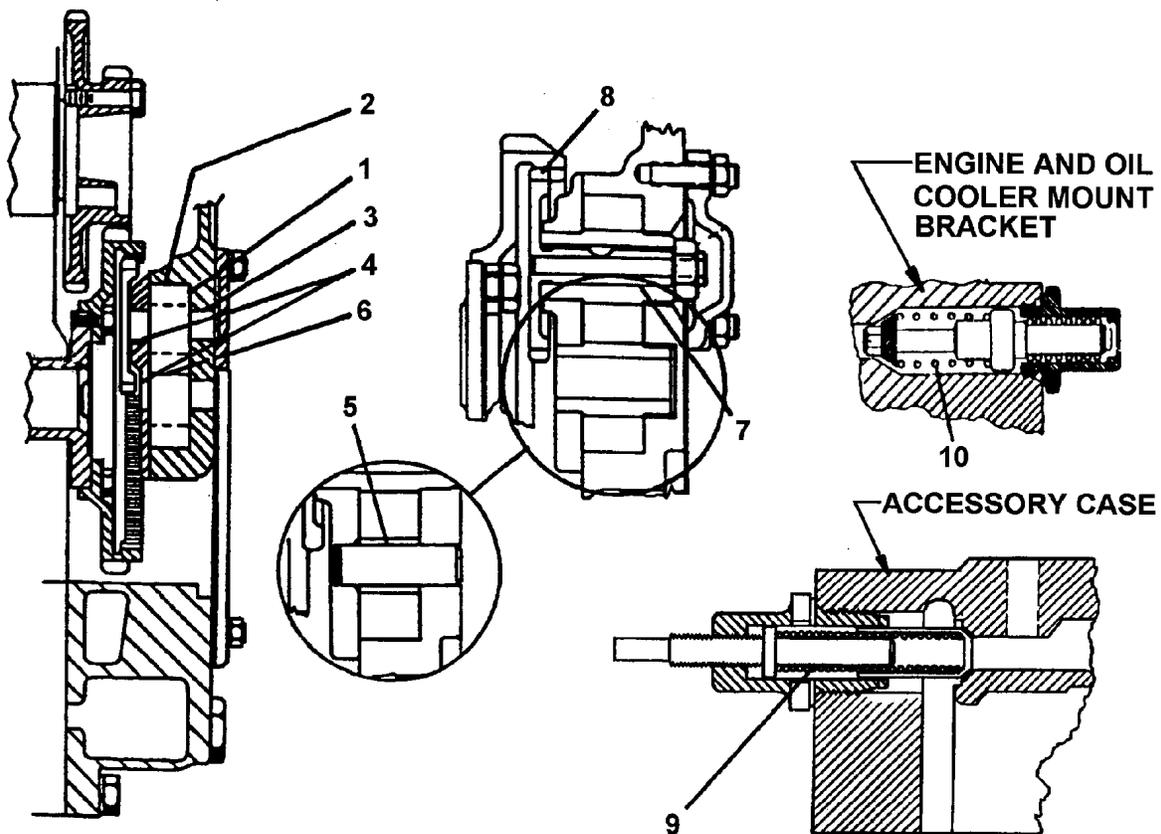

FIGURE 15-1. LUBRICATION SYSTEM FITS AND LIMITS
2. See Figure 15-1, "Oil Cooler." Using new copper gasket (11) install plug (12) in oil cooler adapter. Torque plug to 190-210 inch pounds. Using new o-ring (6) install oil temperature control valve (7) in oil cooler adapter. Torque oil temperature control valve (7) to 440 - 460 inch pounds. Safety wire oil temperature control valve (7) and plug (12) in accordance with Section 4-2, "Lockwire Procedure."